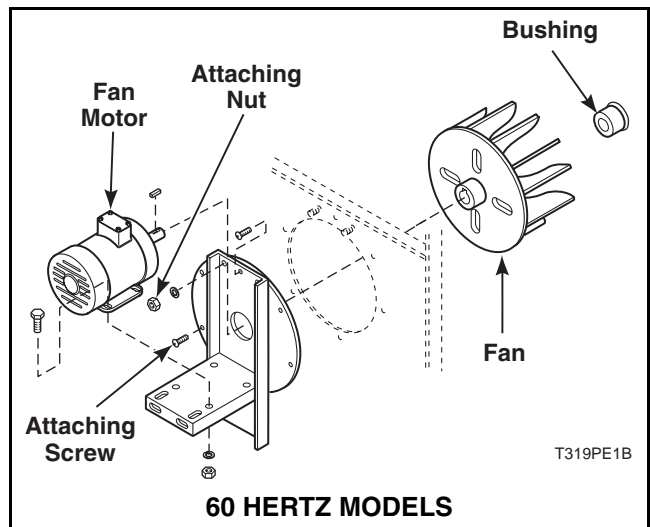

Figure 17
- c. Remove attaching nuts and screws. Refer to *Figure 17*.
- b. Remove attaching nuts and screws. Refer to *Figure 17*.